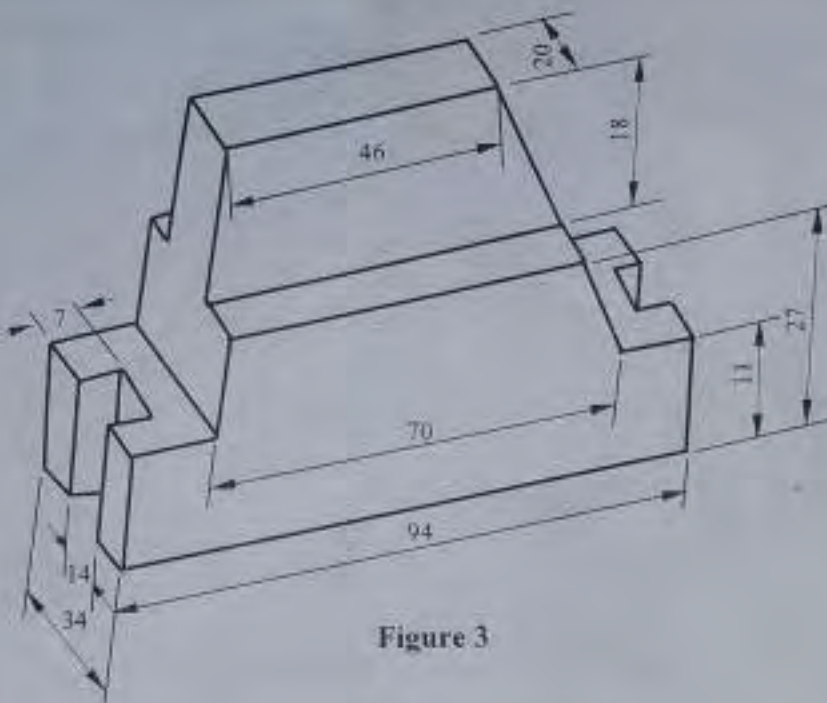

Figure 3
4. Figure 3 shows a pictorial projection of a machined block.